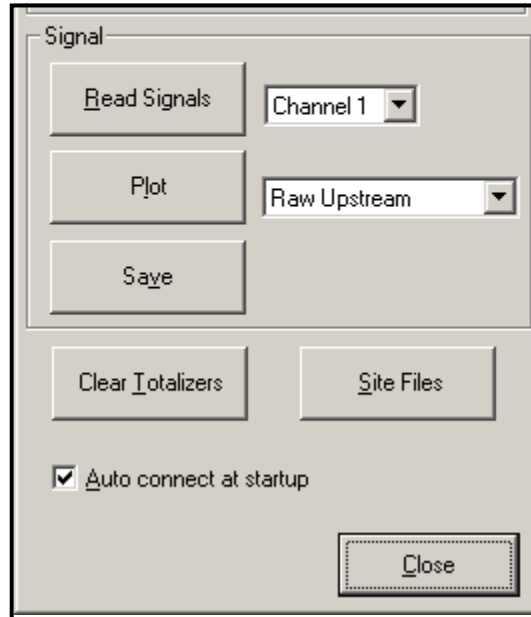

Figure 28: Active Signal Options in Properties Window
1. Click on the *Read Signals* button. (If the meter is a multi-channel instrument, open the Channel drop-down menu and click on the desired channel.) After a moment, the *Properties* window appears similar to *Figure 28* below.